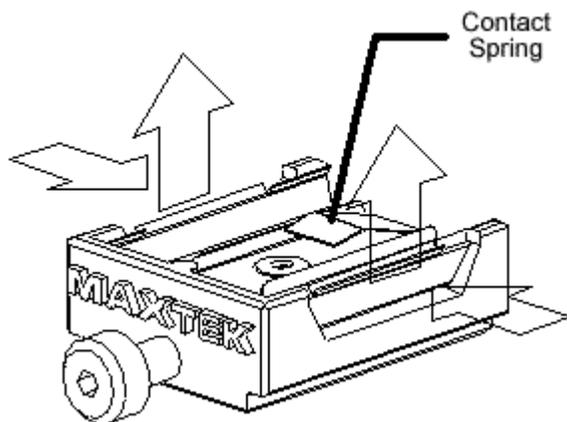

Figure 1 Removing the Retainer
- Using your thumb and index fingers, gently squeeze the sides of the retainer at mid section then lift it up, away from the drawer, as shown in Figure 1.